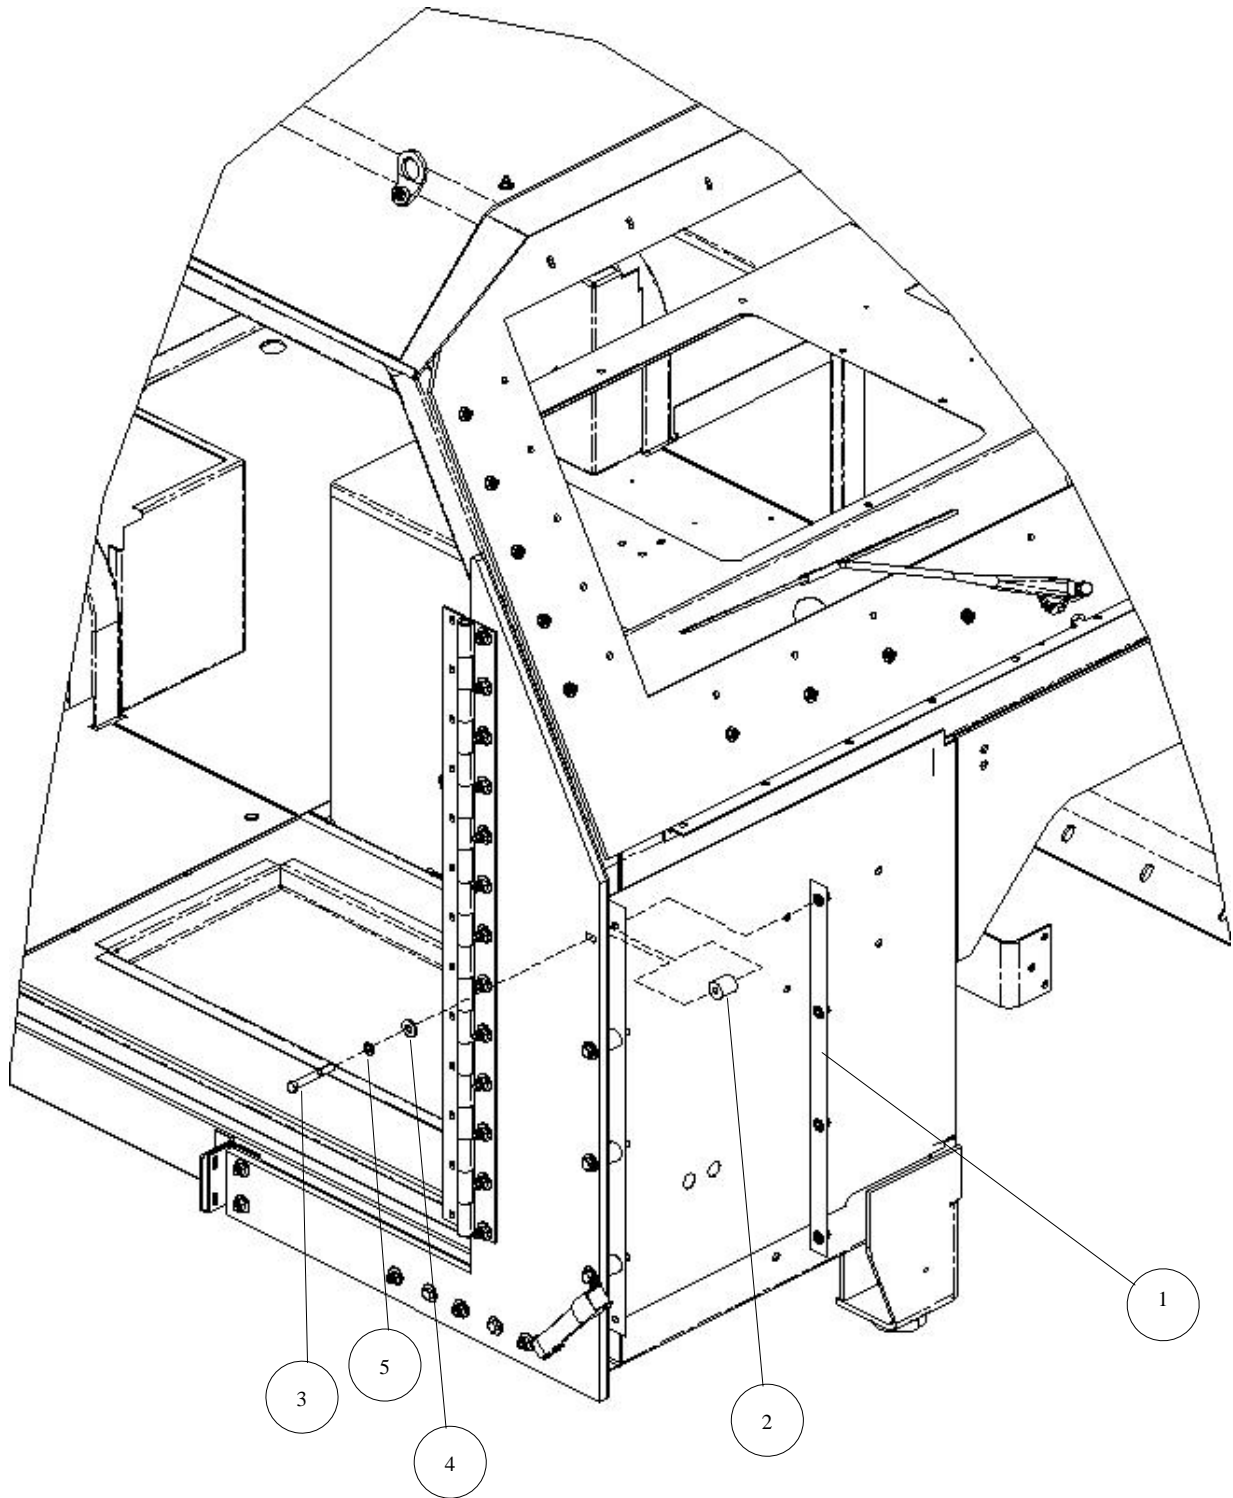

Figure 3-51. Right-Inside Firewall Bracket Installation.
4. Install right-inside firewall bracket as follows (see Figure 3-51):
- a. Install one right-inside firewall bracket (1) and four right firewall spacers (2) and secure with four bolts (3), flat washers (4), and lock washers (5). Torque bolts to 23 lb-ft.